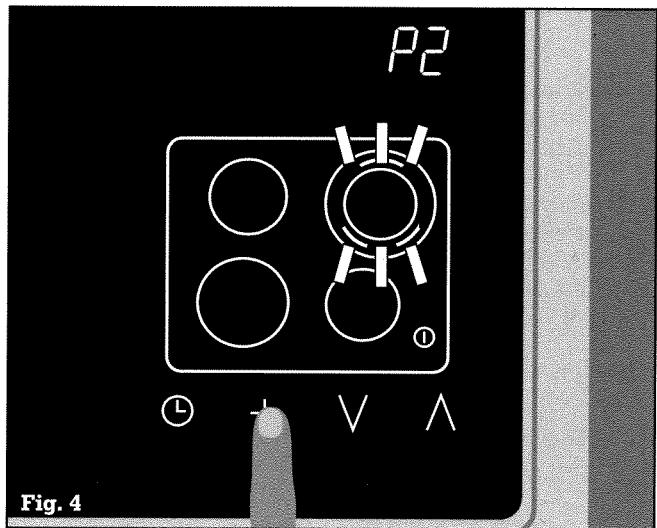

Fig. 4
- ... touch the symbol +. **P2** flashes on the timer display panel. The symbol for combination feature \cap flashes on the display of cooking zone 3 (rear right) (fig. 4).